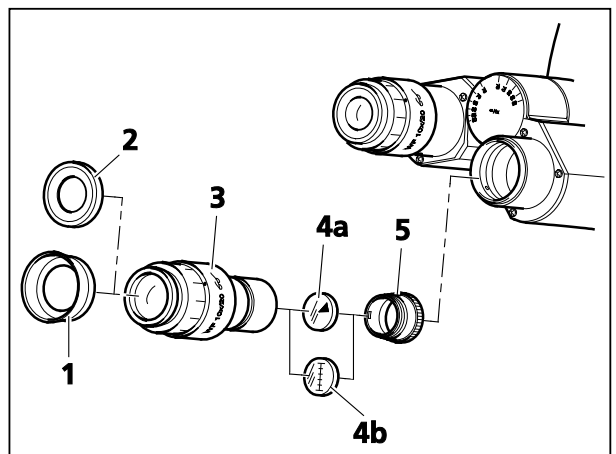

Fig. 32 Inserting the eyepiece pointer or eyepiece micrometer
The eyepieces (Fig. 32/3) can be equipped with fold-over rubber eyecups (Fig. 32/1: pulled out; Fig. 32/2: folded over). Die eyecups are supplied together with the eyepieces, but are not yet mounted.
- Unscrew the stop (Fig. 32/5) by hand from the eyepiece.
- Insert the eyepiece pointer (Fig. 32/4a) or the eyepiece micrometer (Fig. 32/4b) into the eyepiece (with the coated side facing your eyes).
- Turn the focusing ring of the eyepiece (Fig. 32/3) to focus on the wedge-shaped figure of the eyepiece pointer.